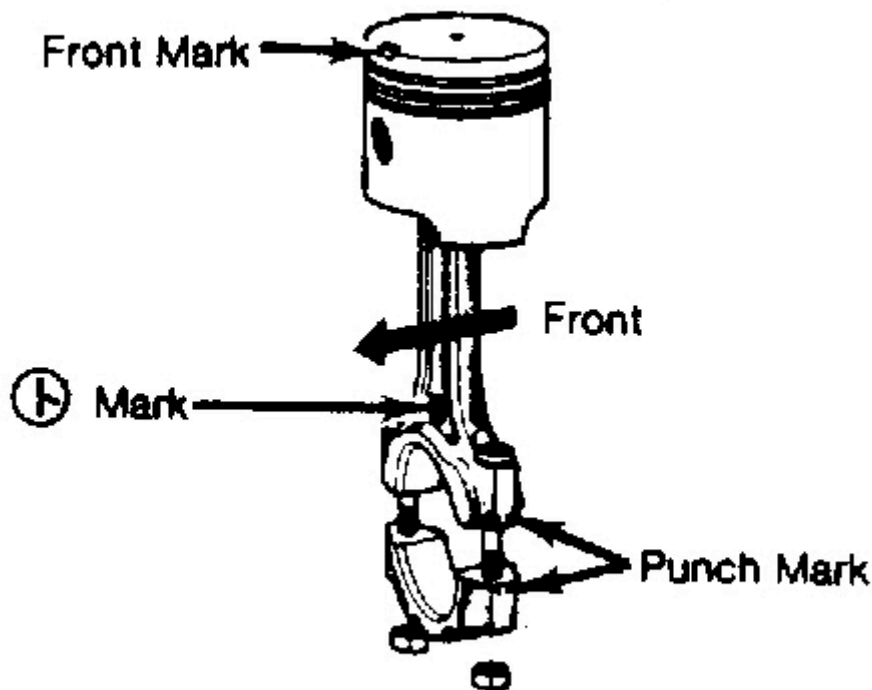

Fig. 6: Assembling Piston & Rod
5. Thoroughly lubricate all components before assembly. Position piston on connecting rod with notch in piston and front mark on connecting rod facing the same direction. Heat piston and install piston pin and circlips. See Fig. 6.